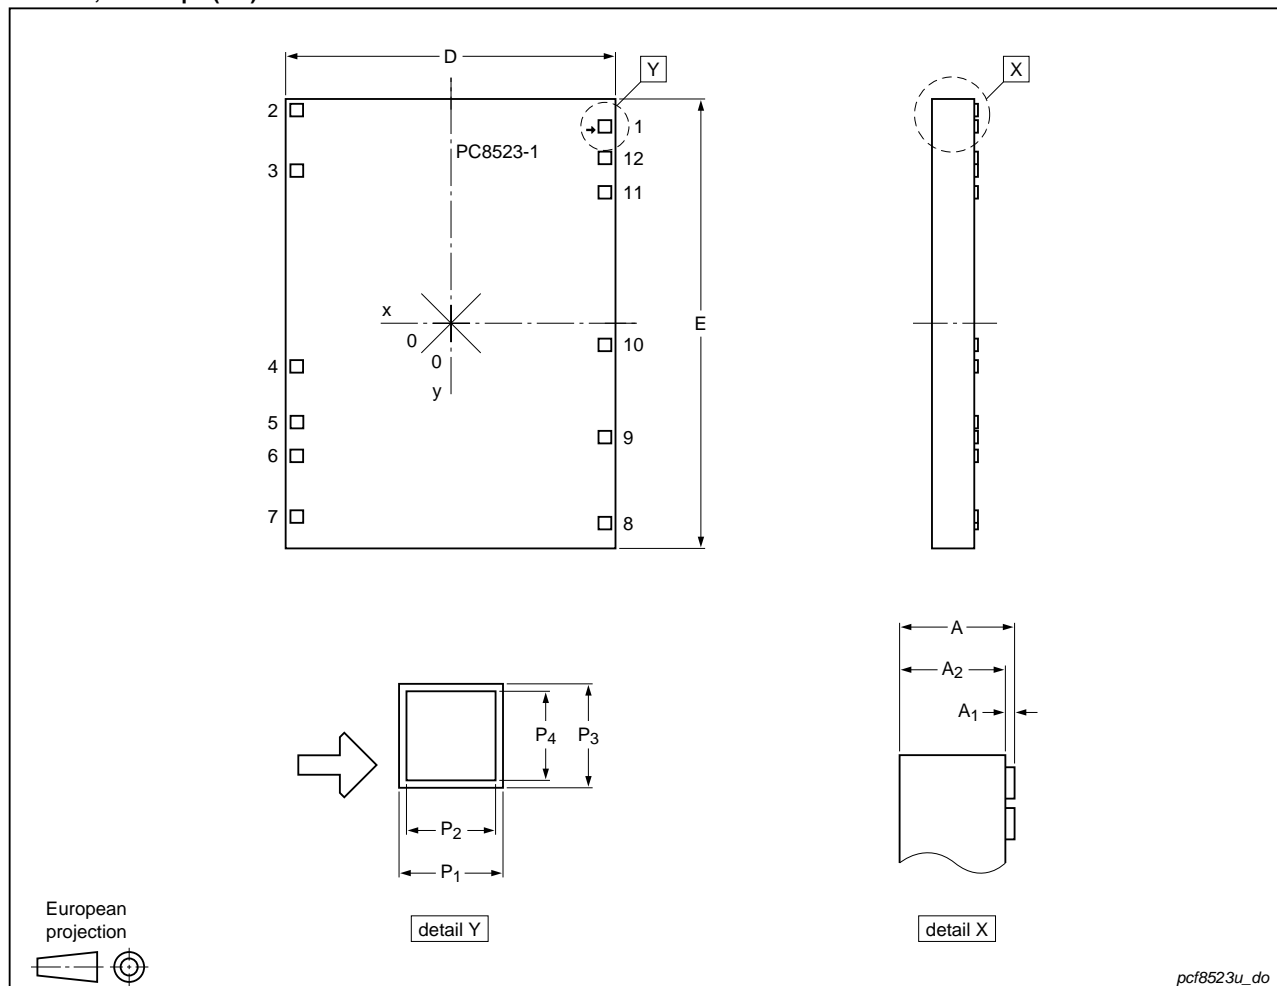

Fig 39. Bare die outline of PCF8523U (for dimensions see Table 48)
All x/y coordinates represent the position of the center of each bump with respect to the center (x/y = 0) of the chip; see Figure 39.
- [1] The x/y coordinates of the alignment mark location represent the position of the REF point (see Figure 40) with respect to the center (x/y = 0) of the chip; see Figure 39.